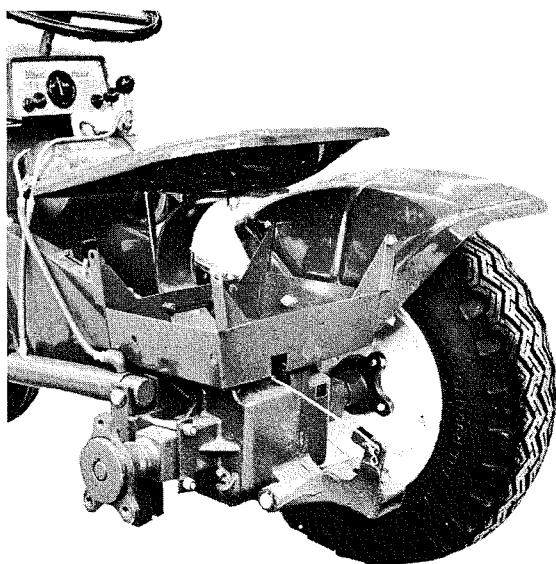

Figure 4
6. Mount cylinder support angle, (part number 4850), to front of axle, using rear mounting bar, (part number 2277), two (2) $\frac{3}{8}$ -16 x 3 Carriage bolts (part number 2279) and two (2) $\frac{3}{8}$ -16 nylock nuts, (part number 915113-6). This mounting bracket is similar to the mounting bracket used on the dozer blade. When the dozer blade is installed it replaces the left mounting bracket and therefore it will not be necessary to remove it. (See Figure 4)
7. Mount cylinder to support angle using the cylinder pin (part number 4872) and two (2) snap rings, (part number S-50-75). Turn rear street elbow on cylinder toward the front. (See Figure 4)
11. Fasten hoses to pump making sure that the longer hose is installed in the forward position on the pump and then fastened to the street elbow at the rear of the cylinder. The short hose is installed in the rear of the pump and is fastened to the front of the cylinder. Secure hoses to end of pump with tube clamps (part number 1472) and $\frac{3}{8}$ -16 Hex Pal Nut (part number 1471). (See Figure 4 and 8)